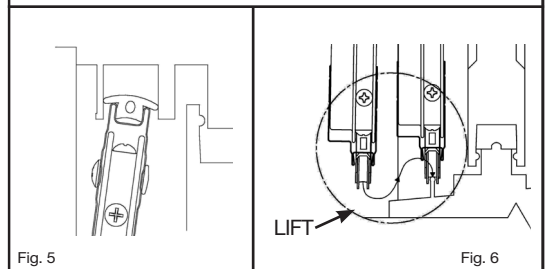

Fig. 5
- 6 Insert top of sliding patio screen door into open pocket in the top frame sill track (Fig. 5).**